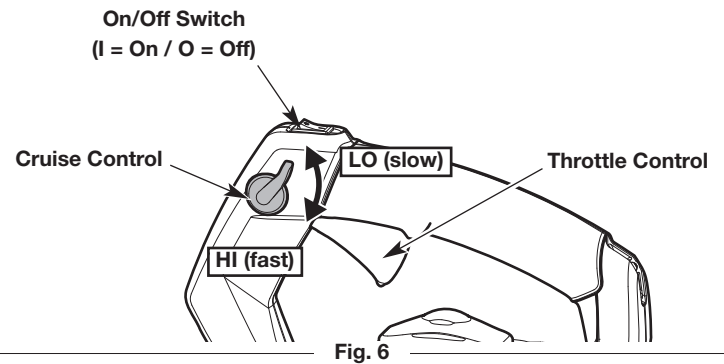

Fig. 6
**NOTE:** There is no need to turn the unit on. The On/Off switch is in the **On (I)** position at all times (Fig. 6).
2. Move the cruise control to the **LO (slow)** position (Fig. 6).
**NOTE:** Keep the cruise control in the **LO (slow)** position and **DO NOT** squeeze the throttle control (Fig. 6) until step 7.
**NOTE:** If the unit stops during this time, squeeze and hold the throttle control or move the cruise control to the **HI (fast)** position (Fig. 6), then pull the starter rope in a controlled and steady motion until the unit starts.
7. Squeeze and hold the throttle control or move the cruise control to the **HI (fast)** position (Fig. 6). Allow the engine to warm up for 30 to 60 seconds. The unit may be used during this time.
2. Press and hold the On/Off switch in the **Off (O)** position until the engine comes to a complete stop (Fig. 6).
**NOTE: Keep the cruise control in the LO (slow) position and DO NOT squeeze the throttle control (Fig. 6) until step 9.**
**NOTE:** If the unit stops during this time, squeeze and hold the throttle control or move the cruise control to the **HI (fast)** position (Fig. 6), then run the electric start accessory in intervals no longer than 2 seconds each until the unit starts.
9. Squeeze and hold the throttle control or move the cruise control to the **HI (fast)** position (Fig. 6). Allow the engine to warm up for 30 to 60 seconds. The unit may be used during this time.
- Use the cruise control to make continuous operation easier (Fig. 6).